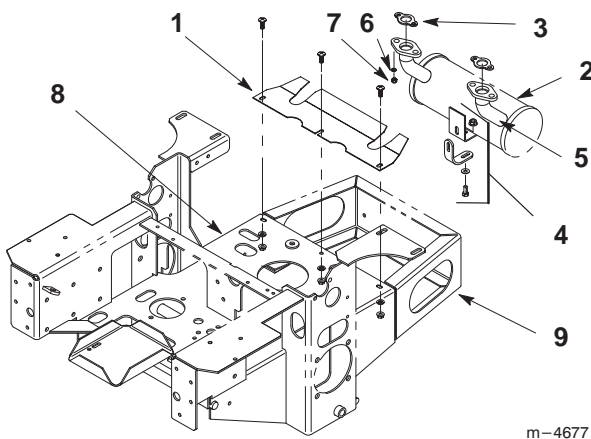

Figure 1
**IMPORTANT:** This kit is for units that have no heat shield or have a flat heat shield installed. If the unit has a heat shield like the one in figure 1 then no rework is required.
1. Remove lock washers and nuts holding muffler to engine manifold and the lower support hardware. Move muffler away from engine. Save lock washers, nuts and lower support hardware (Fig. 1).
3. Install appropriate gaskets onto the engine manifold (Fig. 1). Determine the correct gaskets by which fits correctly on manifold.
4. Install muffler onto the engine manifold with lock washers and nuts. Install muffler lower support bracket and hardware (Fig. 1 and 6).